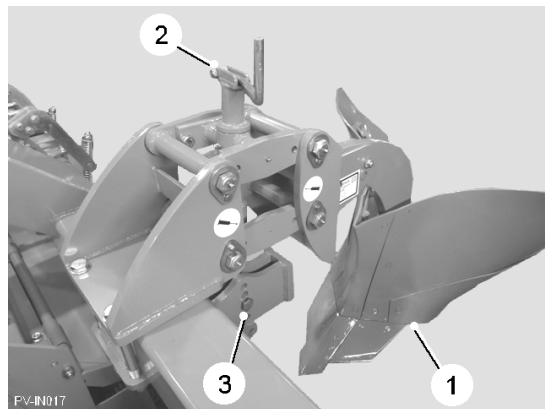

Fig. 11
The working depth of the centre ridgers (item 1, fig. 11) is set by the parallel linkage adjuster screw (item 2, fig 11). This gives the basic depth. Moving the bottom pin (item 3, fig. 11) into a higher hole will raise the ridger body, reducing the overall working depth.